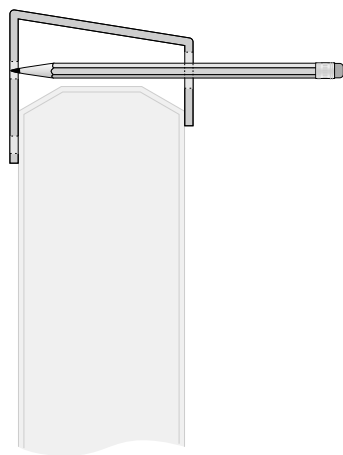

Figure 6 Marking the Screw Locations on a Wall (Side View)
2. Place the back of the module flat against the wall; pass a pencil through the front holes on the bracket and mark the four screw locations on the wall. Refer to Figure 6.